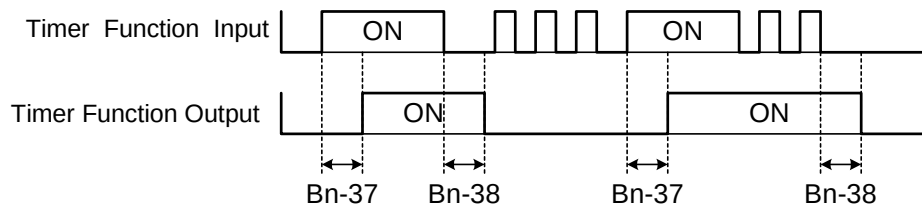

Figure 16 Timer Function
- When the Timer Function input OFF time is longer than the value set for Bn-38, the Timer Function output turns OFF. An example is shown in Figure 16.